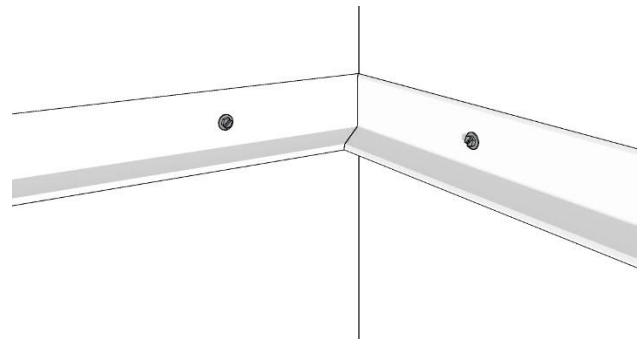

FIG. 5
5. **Wallrail** corner joints shall be a mitered connection. All in line **Wallrail** joints shall be square cut and consistent in elevation and square. Sealant shall be used in environments that require a moisture, gas, and air-tight installation. **FIG. 5**